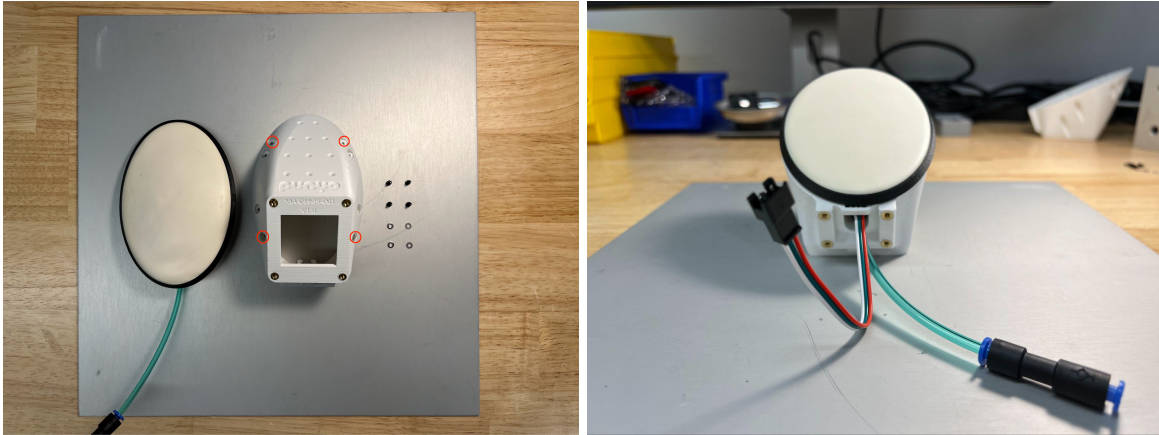

Figure 76: Locations and fasteners necessary to attach the *Bubble Module* to the *Bubble Gripper Body*
- b. Carefully push the *Bubble Module* into position, with the latex facing away from the cavity of the *Bubble Gripper Body*. The four threaded heat-set inserts should align with the four positions circled in red in Fig. 76.